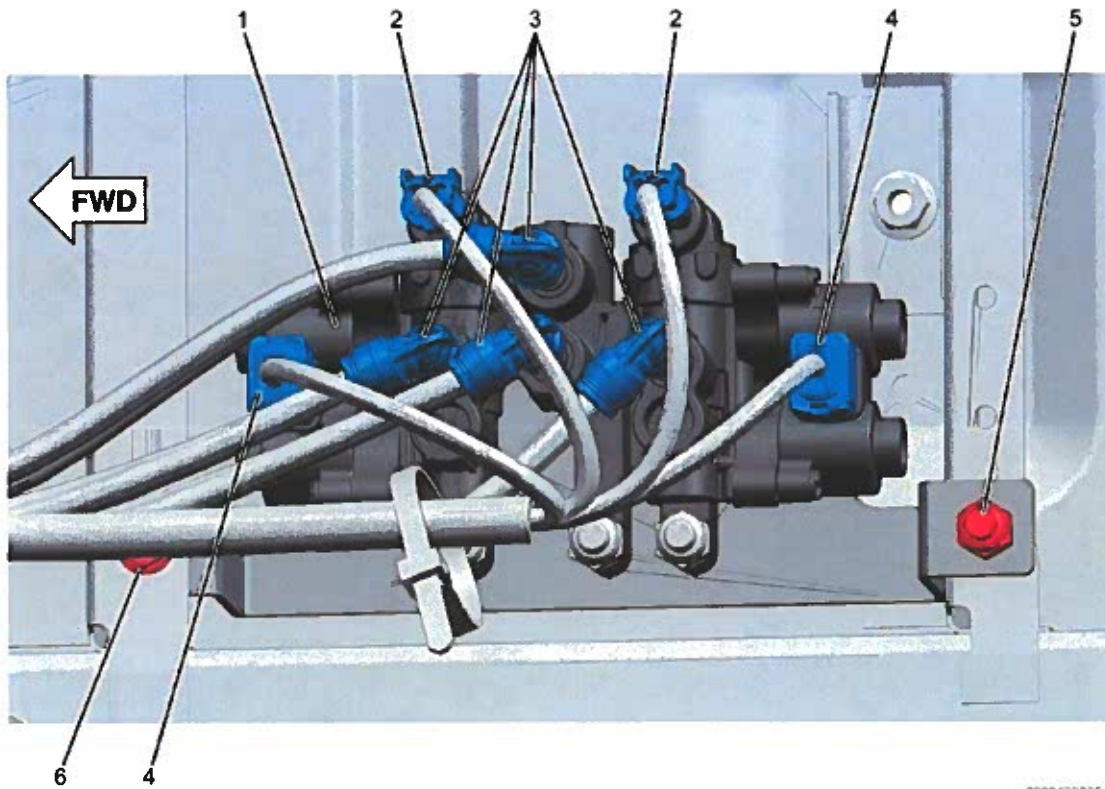

Figure 2. Park Valve Module and LT, LoneStar and RH Mounting Bracket
9. Record air line, electrical, and solenoid connection locations on module (Figure 2, Item 1) for reinstallation.
10. Disconnect four vehicle air lines (Figure 2, Item 3) from module air line stubs.
11. Disconnect two electrical sensor connectors (Figure 2, Item 4).
12. Disconnect two solenoid connectors (Figure 2, Item 2).
- a) LT Series: Remove the mounting bracket front fastener (Figure 2, Item 6) from the air line support bracket(s) and cab floor crossmember. Save for reuse.
- b) LT Series: Remove the mounting bracket rear fastener (Figure 2, Item 5) from the air line support bracket(s) and cab floor crossmember. Save for reuse.
a) LT Series: Align and position air line support brackets onto welded stud of mounting bracket. Install mounting bracket front fastener (Figure 2, Item 6) securing air line support brackets and PVM mounting bracket to cab floor crossmember.
c) LT Series: Install previously removed bolt through top of cab floor crossmember channel into rear location of PVM mounting bracket and air line support brackets. Loosely install nut to mounting bracket rear fastener (Figure 2, Item 5).
22. Using previously recorded locations, connect the two solenoid connectors (Figure 2, Item 2) to PVM (Figure 2, Item 1).
23. Using previously recorded locations, connect two electrical sensor connectors (Figure 2, Item 4) to PVM.
24. Using previously recorded locations, connect four vehicle air lines (Figure 2, Item 3) to the stub air lines on module (Figure 2, Item 1).